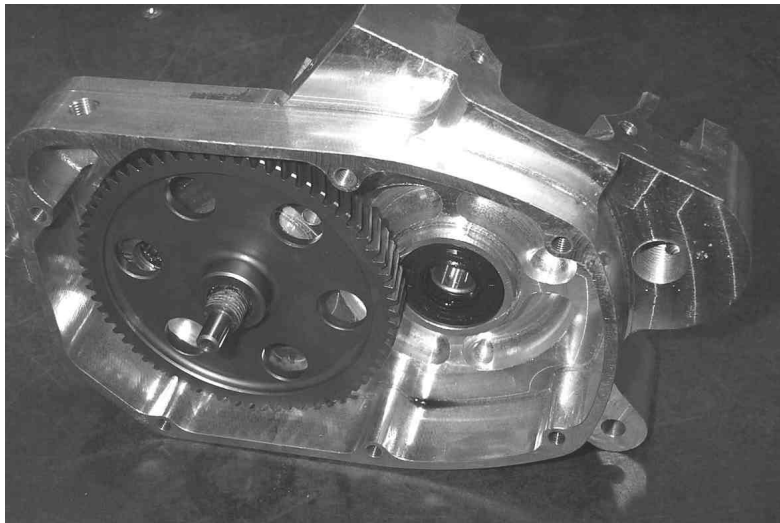

Figure 25
8. Insert the transmission input shaft and install large drive gear as shown in figures 25 & 26.